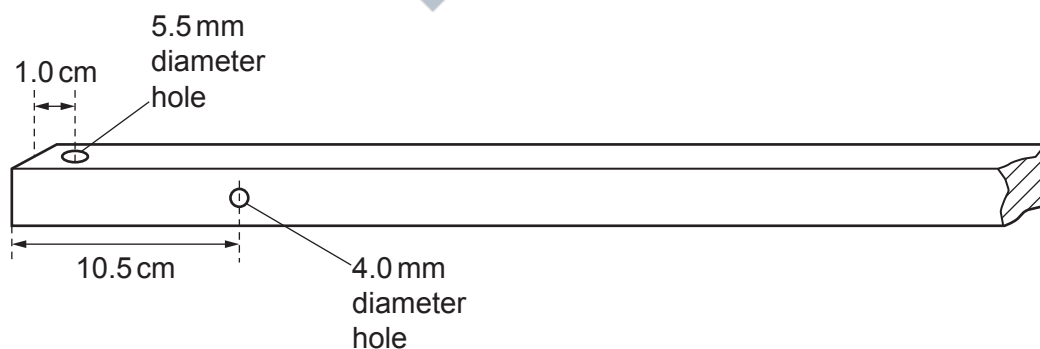

Fig. 2.1
- 1 Drill two holes (one vertical and one horizontal) through the wooden strip as shown in Fig. 2.1.